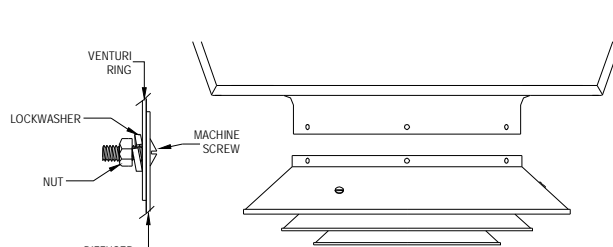

FIG. 2
**For Heaters 5112-5120 Only Use Diffuser AD5120 - See Fig. 2**